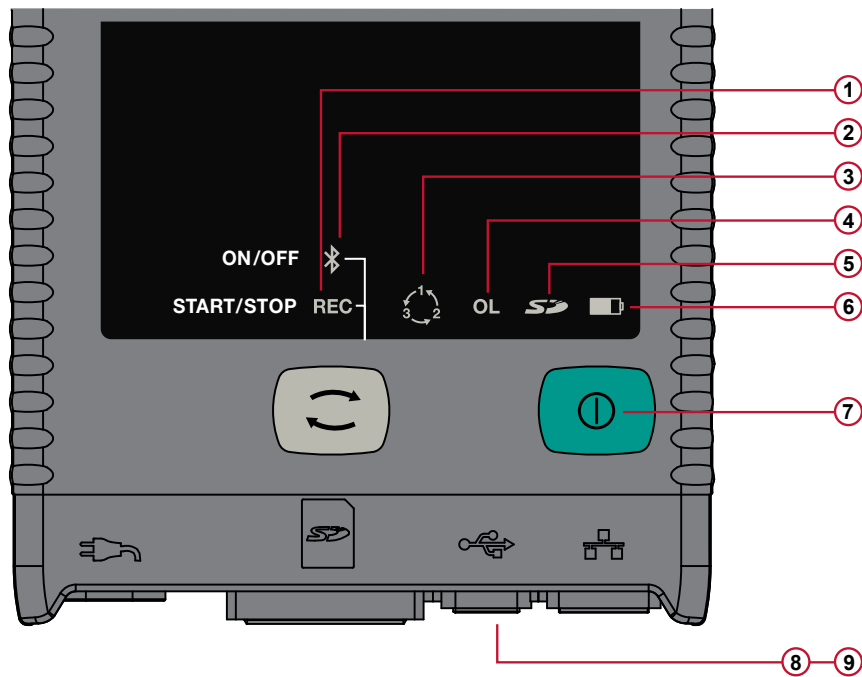

Figure 8
- ① Four voltage input terminals.
- ② Three current input terminals.
- ③ Rigid molded casing over-molded with thermo-adhesive rubber.
- ④ Digital LCD displaying measured, calculated and parameterizing quantities (see § 2.10).
- ⑤ Two (PEL 102) or Four (PEL 103) function buttons (see § 2.9).
- ⑥ Nine LEDs for status information (see § 2.11).
- ⑦ Anti-theft Kensington Security Slot (see § 2.8)
- ⑧ Connections for USB, Ethernet, SD memory card and terminal cover caps.
- ⑨ Standard (IEC C7 figure 8 terminal – non polarized) power connector for 110/250VAC power source.
The Yellow/Red LED (see #6 Figure 8) is used to indicate the status of the battery.
- The green REC LED (see #1 Figure 8) will light up for 3 seconds, followed by the lighting of the blue Bluetooth LED (see #2 Figure 8) for 3s - one after another. During the time these LEDs are lit you will be able to control their respective function as described below.